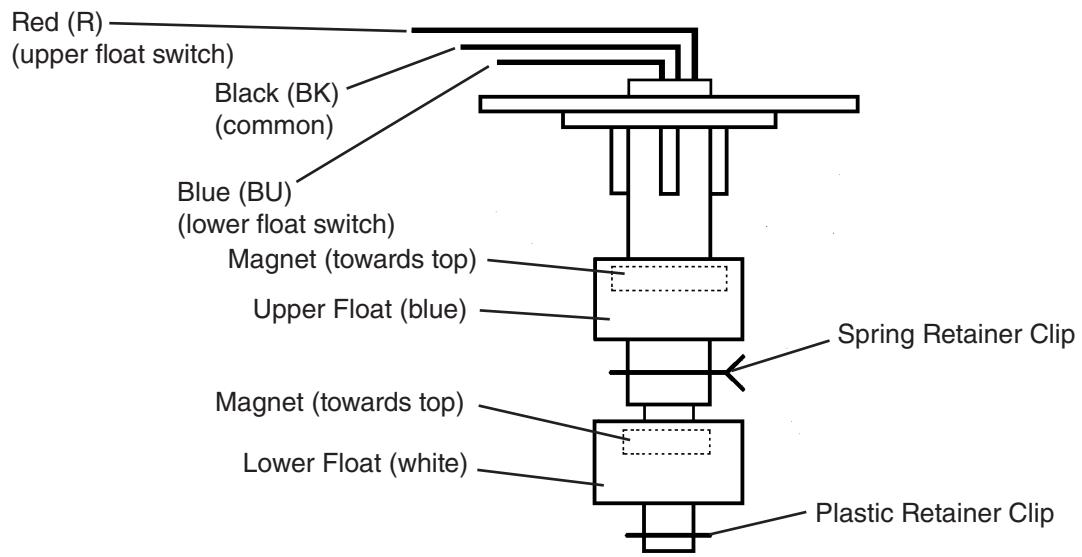

Fig. 7
- 2) After the water has drained from the reservoir, remove the FS molex plug from the control box and check continuity across FS wires. Common (BK) to UFS (R) and common (BK) to LFS (BU). See Fig. 7. With the reservoir empty, float switches are open. If open, continue to step 3. If closed, follow the steps in "III.B.5. Float Switch Cleaning." After cleaning, check them again. Replace if necessary.
- 7) Remove the FS molex plug from the control box and check continuity across FS wires. Common (BK) to UFS (R) and common (BK) to LFS (BU). With the reservoir full, float switches are closed. If open, follow the steps in "III.B.5. Float Switch Cleaning." After cleaning, check them again. Replace if necessary.